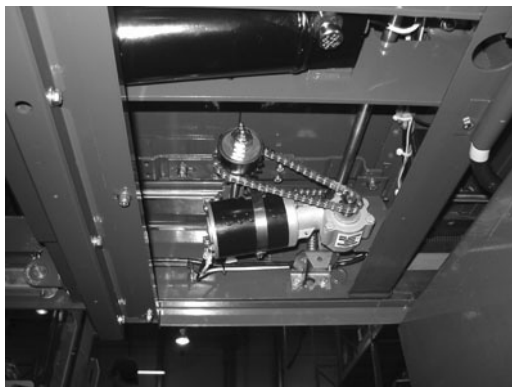

FIGURE 3: POSITION OF CLUTCH ASSEMBLY FOR PROCEDURE
5. Refer to **Figure 3**. Move carriage assembly so that clutch assembly and motor are positioned over access door.